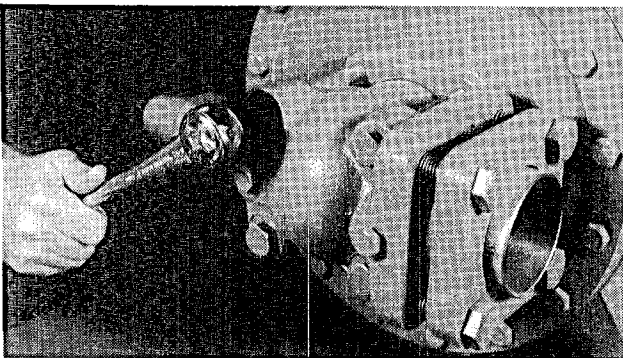

Figure 21
1. Loosen and remove the four suction service valve mounting bolts (Figure 21).